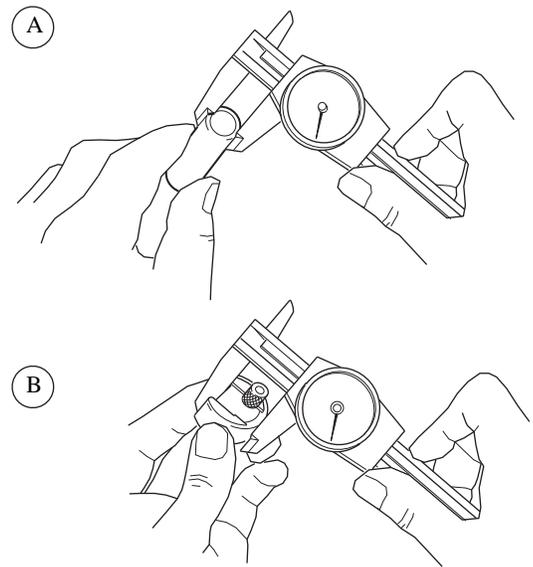

Figure 7 Setting the Arc Gap Gage
1. Measure the outside diameters of the work pieces being welded using a caliper or micrometer. See Figure 7(A). The M200 will calculate the arc gap gage setting when using the Auto Create feature.
3. Adjust the arc gap gage to match the setting from the tables on page 8. See Figure 7(B).